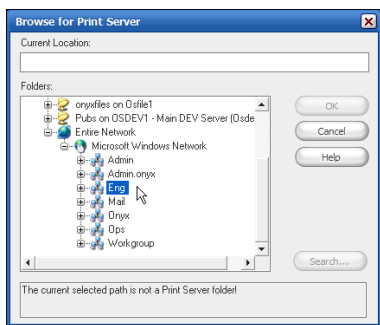

Figure 3—Browse for Print Server
1. Highlight the **Print Forwarding** port on the **Configure Printer Port dialog**, and click **Configure**. This opens the **Browse for Print Server dialog** (see Figure 3).